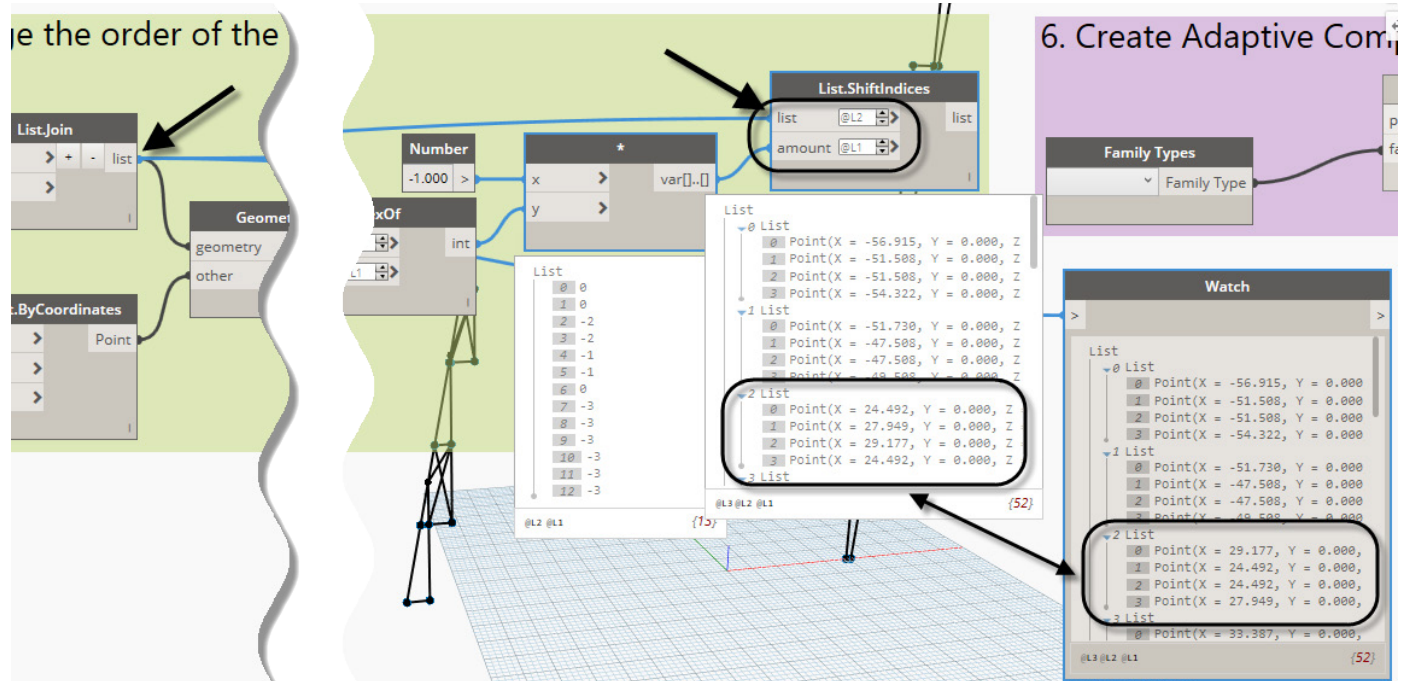

Figure 107
66. Turn on list at level for both **list** and **amount**. Set **list** to **@L2** and **amount** to **@L1** and then run the graph (see Figure 107).